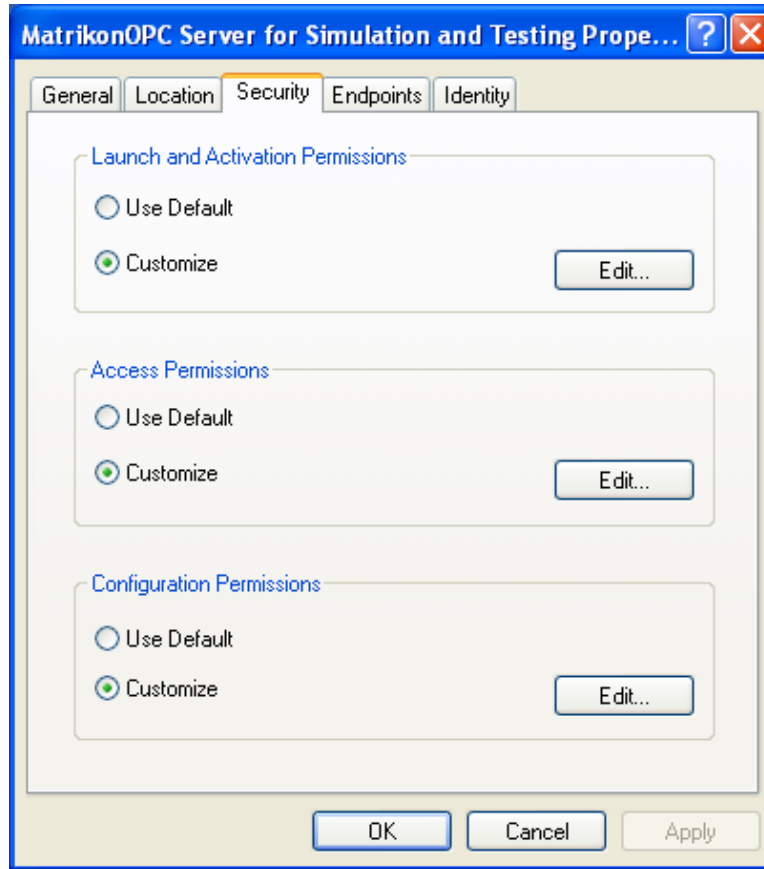

Figure 62 - Distributed COM Configuration Security Tab
5. The **Distributed COM Configuration Security** tab (Figure 62) appears.